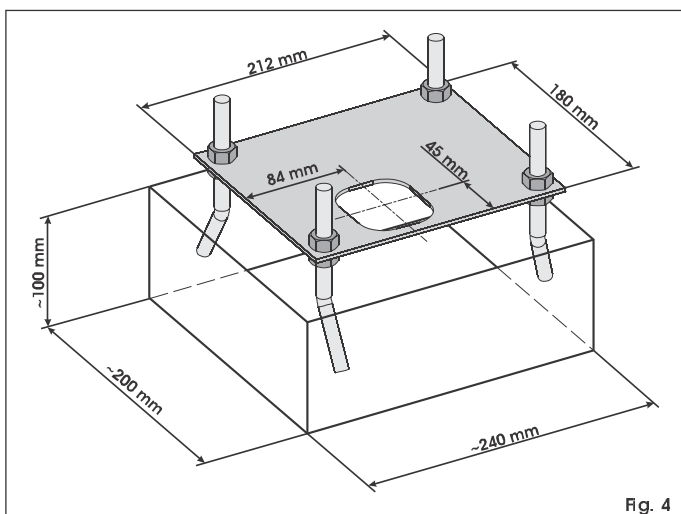
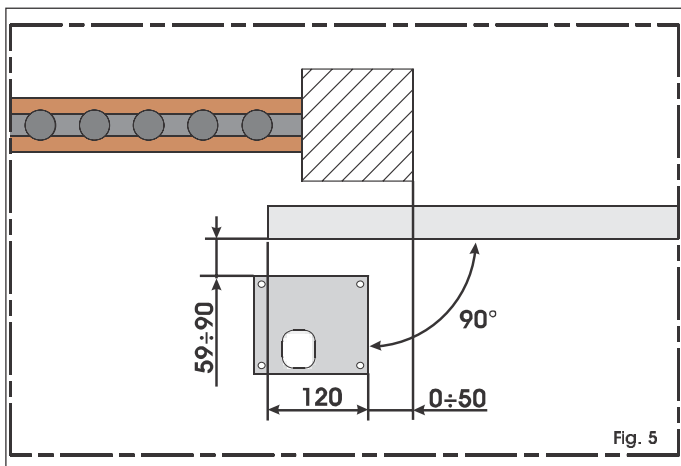
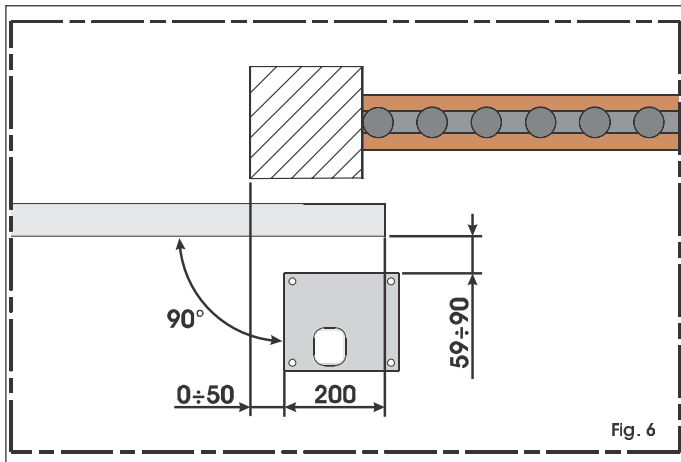

Fig. 4
Fig. 5
Fig. 6
2. Dig a cavity for the foundation plate as shown in Fig. 4. The foundation plate must be located as shown in Fig. 5 (right closing) or Fig.6 (left closing) to ensure correct meshing between rack and pinion.
- 2) **The operator is supplied for installation with the gate closing on the right of the operator (looking from the inside) (fig. 5). If you require left-hand closure, change over the connection of the cables connected to the terminals of the motor.**